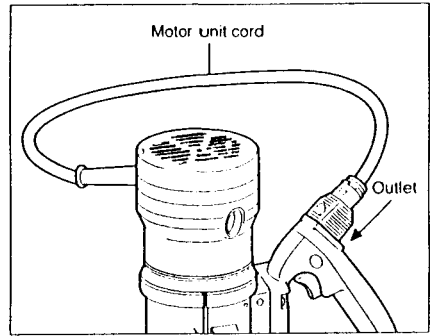

Fig. 6
2. While holding the base, insert the motor unit into the base aligning the pin with the groove in the base. (Fig. 6)